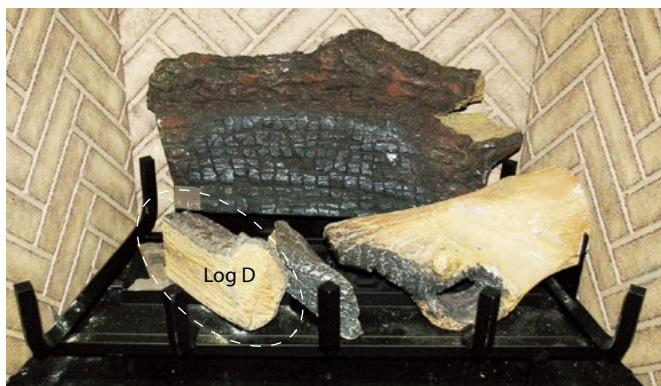

Figure 18j. Installation of Log 'D'.
**Step 7.** Place Bottom Left Log 'D', with the flat edge down. and place square end inside Log Rest, aligning the center of the Log with the Spikes, **Figure, 18a.** Press FIRMLY, seating the Log onto the sharp spikes, **Figure 18j.** Note the color variation in the Log.